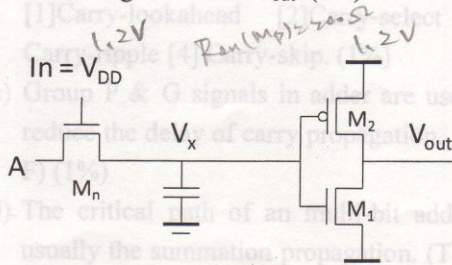

Fig. 8
8. A pass transistor logic is implemented as shown in Fig. 8 with  $V_{DD} = 1.2V$  and  $|V_{tp}| = |V_{tn}| = 0.5V$ . The inverter ( $M_1$  &  $M_2$ ) has  $V_{IL} = 0.2V$  and  $V_{IH} = 1.0V$ . Ignore the body effect. (5%)